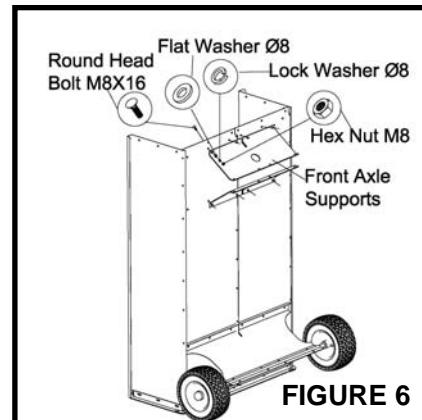

FIGURE 6
18. Assemble the two front axle supports to the cart using twelve M8X16 round head bolts , Flat Washer Ø8, Lock Washer Ø8 and M8 hex nuts as shown in **Figure 6. Do not tighten yet.**